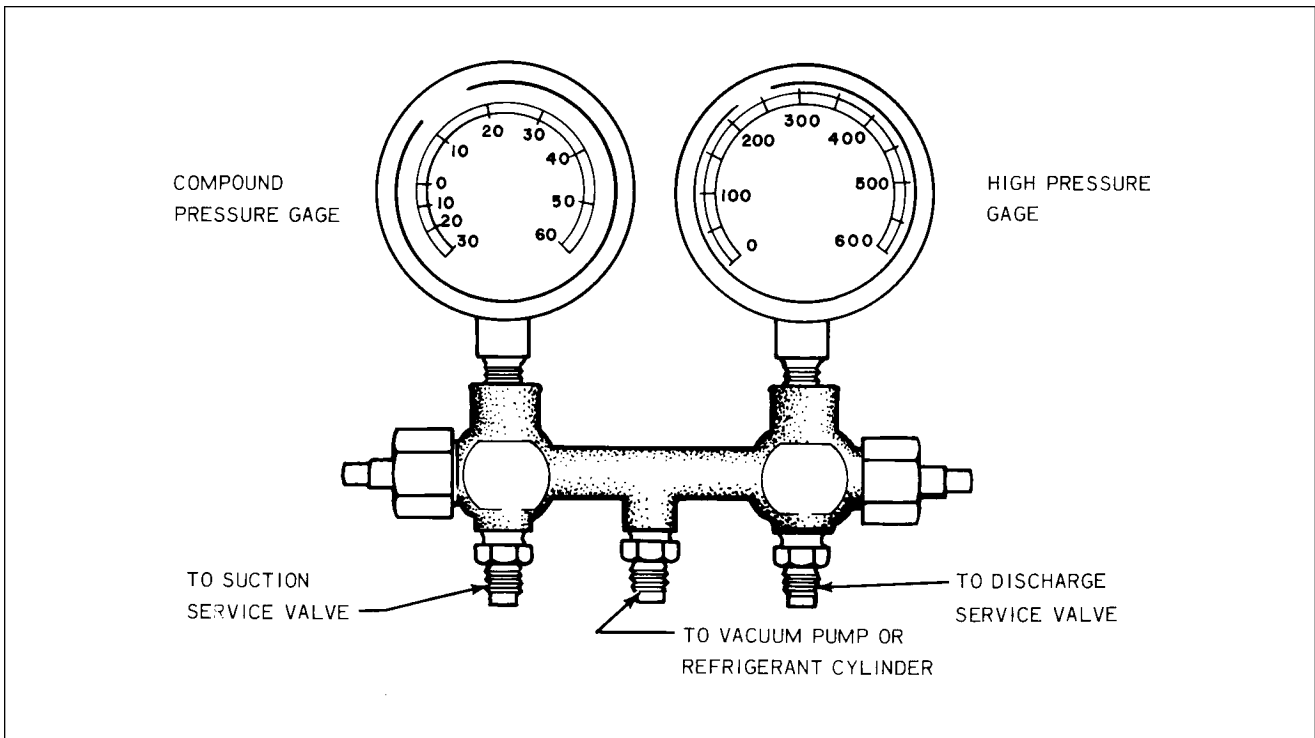

Figure 21-6. Test Gauge and Manifold Set
The proper testing and diagnosis of the air conditioning system require that a manifold gauge set be attached into the system. This set consists of two gauges mounted to a manifold. One gauge is a high pressure gauge used in the discharge side of the system. The other is a low pressure gauge used in the suction side of the system. The manifold is a device having fittings for both gauges and connection hoses with provisions for controlling the flow of refrigerant through the manifold. (See Figures 21-6 and 21-7.)
Cracking the hand valve, in the counterclockwise direction, opens the system to the middle service port of the manifold set. This is desirable only when it is necessary to let refrigerant out or into the system. (Refer to Figures 21-6 and 21-7.)
3. The high and low manifold hand valves should be in the closed position. (Refer to Figures 21-6 and 21-7.)